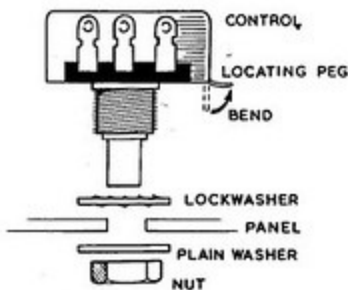

FIGURE 1
Refer to Pictorial 1 and Figure 1 for the following steps:
- (✓) See Figure 1 and fit a 250 K $\Omega$  potentiometer at PP.